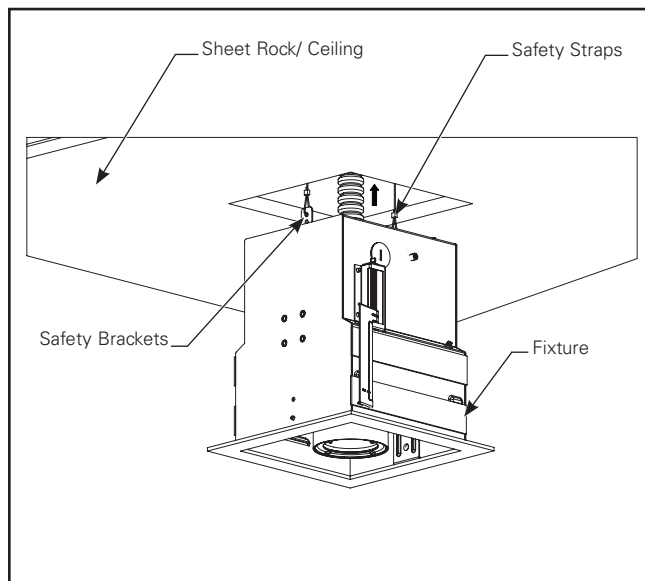

Figure 2.5.
3. Feed safety straps into safety bracket by knotting. Make sure straps are pulled tightly against the ceiling. Raise the fixture housing onto ceiling/ Sheet rock. (Figure 2.5)